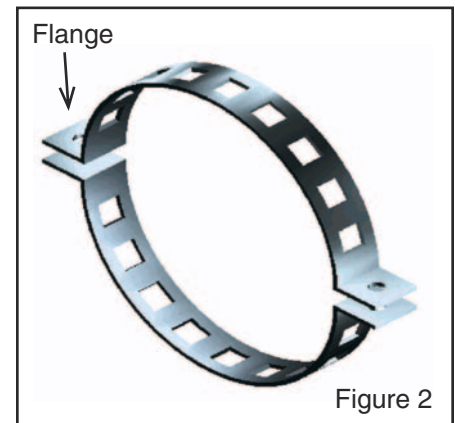

Figure 2
**Method #1:** To align duct, obtain (from your sheet metal shop) metal sleeves 30cm (12") wide. (See Figure 2.) Ideally, the sleeves should be 12 to 18 gauge rolled in two half-sections and flanged when more than a few joints will be made.
The sleeves wrap around the duct joint and tighten snugly with welders clasps. Single piece band sleeves can also be used when only a few joints will be made for a specific diameter. The single piece sleeves should be made a few inches longer than the duct circumference and tightened with draw bands. Each sleeve should have 4" (100mm) square cutouts located every 8" (200mm) on center along the sleeve centerline as shown in Figure 2. Also obtain 1" x 3" (25mm x 75mm) 18 gauge stainless steel clips with 3/16" (5mm) holes pre-drilled 1/2" (13mm) in from each end and 3/16" (5mm) stainless steel rivets not to exceed 3/8" (10mm) long when installed.